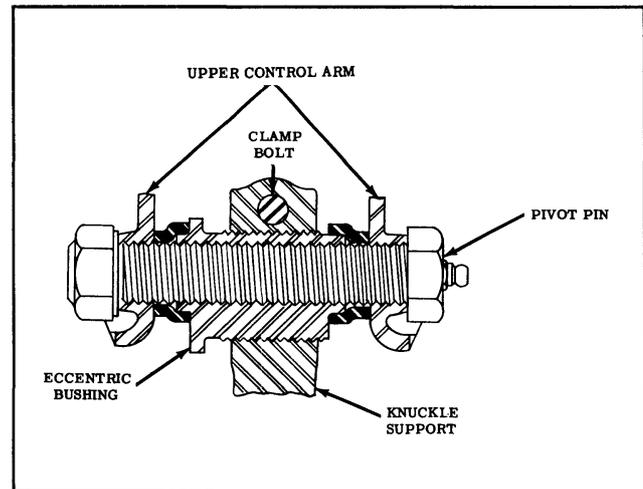

Fig. 4-6 Upper Pivot Pin
2. Loosen knuckle support clamp bolt. (See Fig. 4-6)